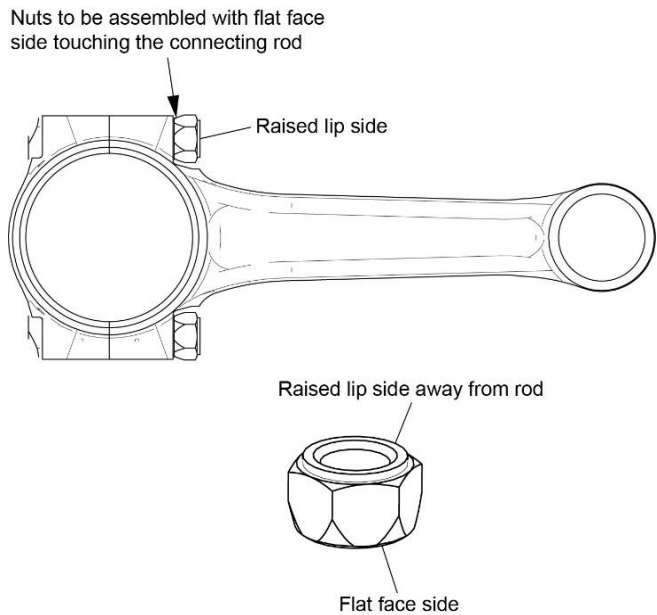

Figure 15
11. Install a new nut on each new connecting rod bolt where the flat face of the nut touches the connecting rod as shown in Figure 15.